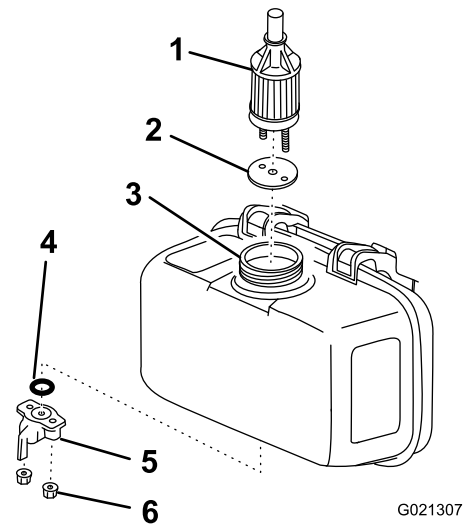

Figure 41
5. Loosen the nuts under the fuel-shutoff lever (Figure 41).
6. Remove and discard the O-ring (Figure 41).
7. Pull the outlet-fuel filter and gasket out of the filler port (Figure 41).
8. Install a new outlet-fuel filter and gasket through the filler port, and seat them in the fuel tank (Figure 41).
9. Install a new O-ring on the fuel-shutoff lever, and install the assembly to the fuel tank using the nuts under the fuel-shutoff lever (Figure 41).